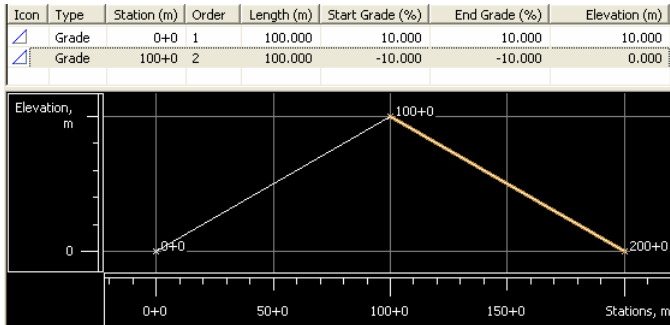

Figure 9-58. Table and Graph Panes Display the Created Grades
3. Click **OK**. The Table and Graphic panes of the right panel of the *Roads* tab displays the created grade (Figure 9-58).